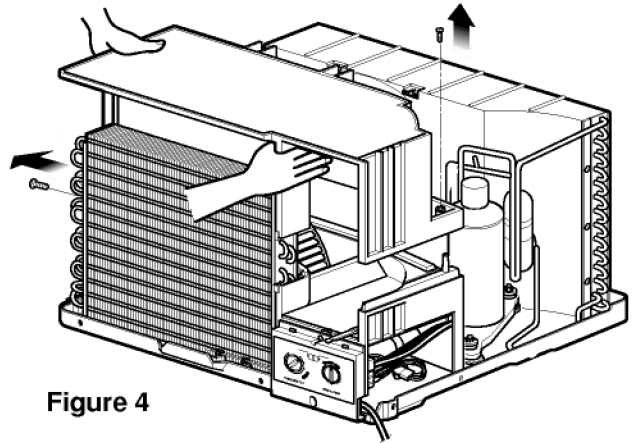

Figure 4
7. Re-install the components by referring to the removed procedure, above. (See figure 4)